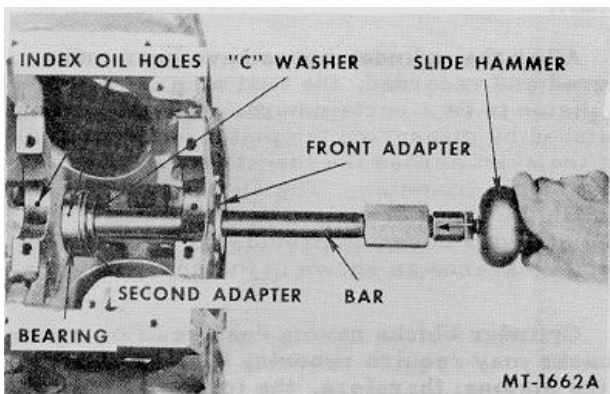

Fig. 68 Installation of Second Bearing
9. Position the new bearing on the second adapter and with the adapter flange toward the front of the block, install the bar through the front and second adapter. Then install the "C" washer in front of the second adapter. Align the oil holes (with short groove) in top and (long groove) in bottom of second bearing with oil holes in block, Fig. 68. Push in second bearing,